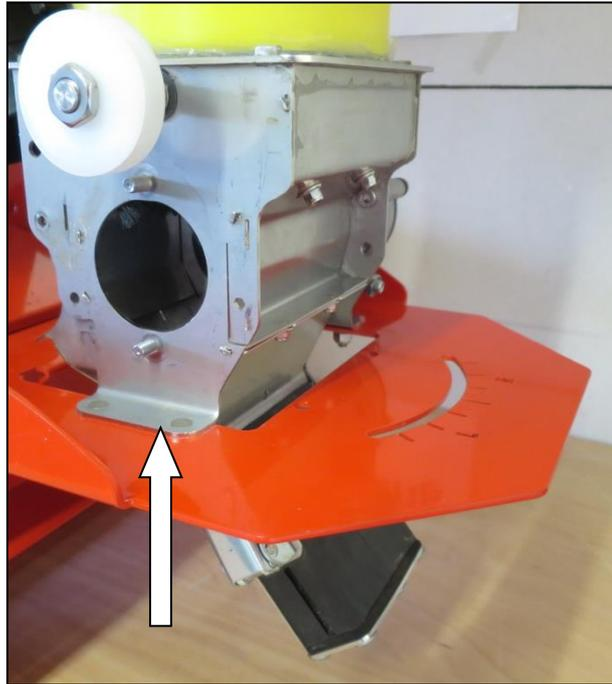

Fig.: 95
- Push the unit with the air channel and the transition pieces from below into the metering unit, as shown in Fig.: 95.